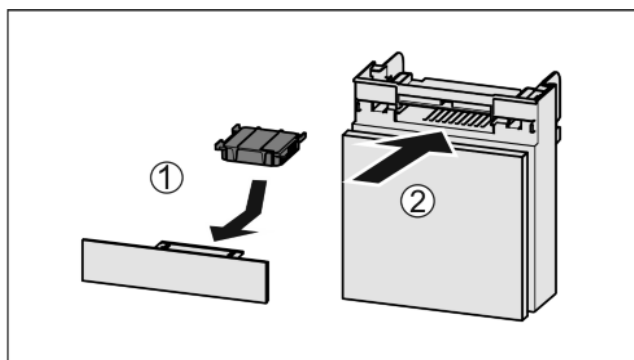

Fig. 45
- ▶ Insert the carbon filter as shown in the diagram Fig. 45 (1).
- ▶ Push the compartment in Fig. 45 (2).